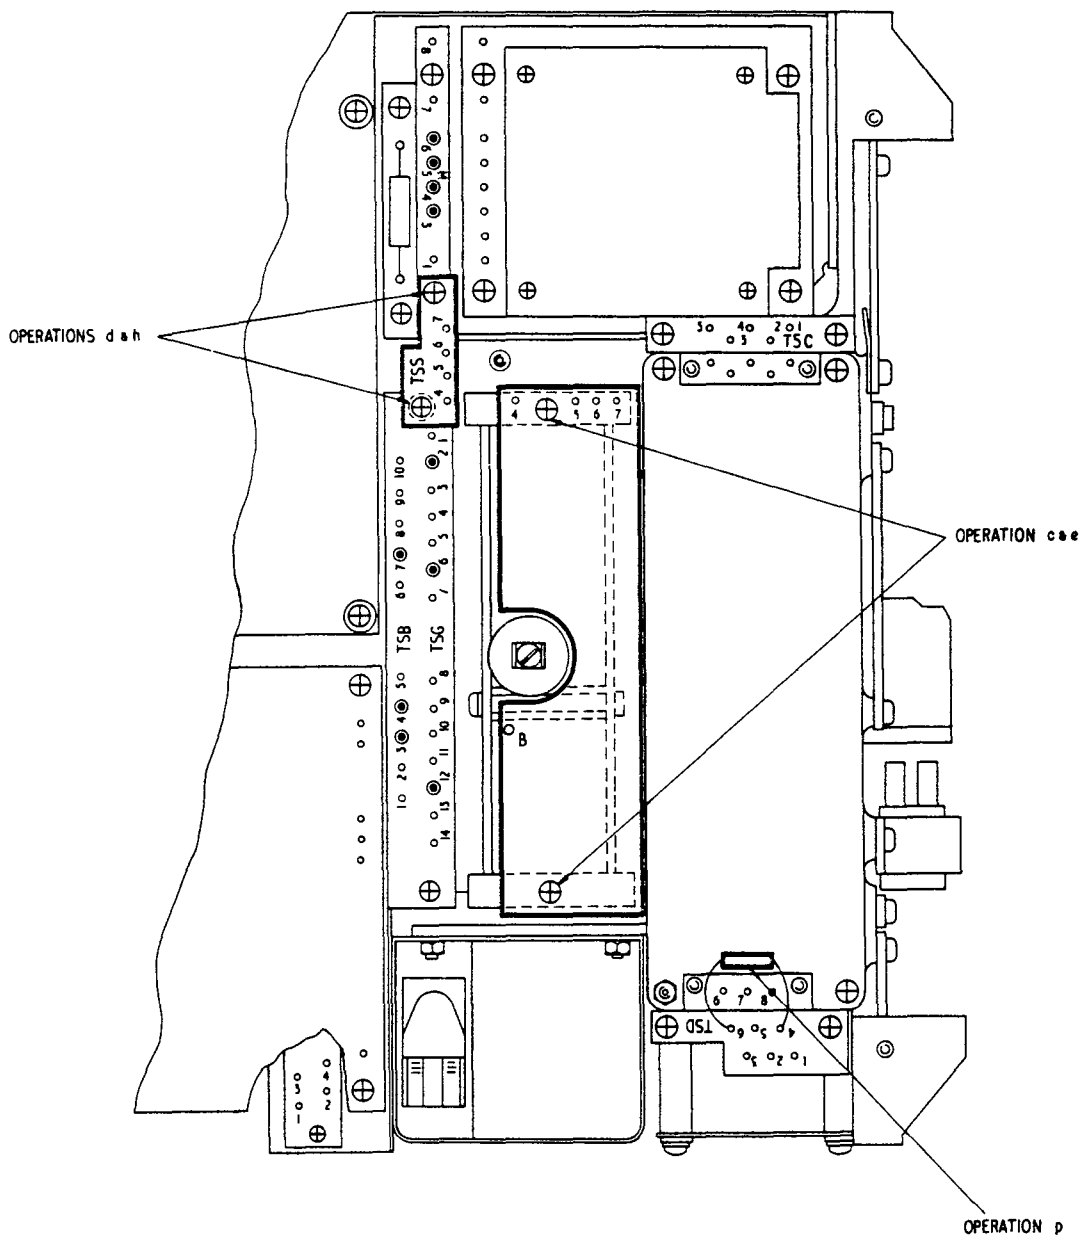

Fig 1 - Section of film scale assembly after modification
c. Locate and remove the two cross-headed screws and washers securing the retainer, electronic circuit panel (5820-99-102-4527) to the film scale casting. Discard the screws and retain the washers (see Fig 1).